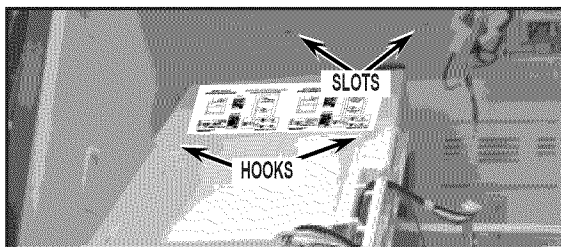

FIGURE 20
23. Position ice box assembly over air ducts on the rear wall of the cabinet while engaging the hooks on top of the assembly into the slots in the top of the cabinet. See *Figure 20*.